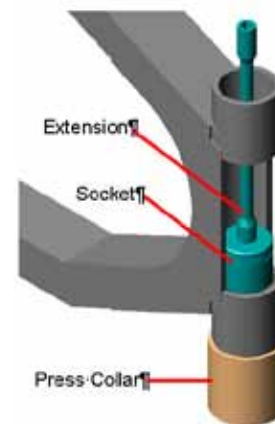

Figure 1
- Place the swing arm in an arbor or hydraulic press. Place the press collar (Swing Arm Assembly Tool, Part No. HD-96200-80) on the outside diameter of the swing arm. Figure 1